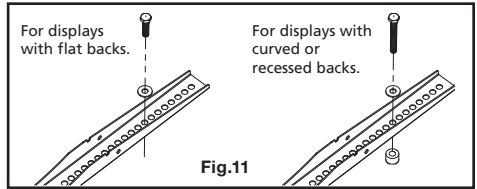
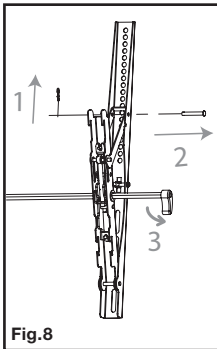
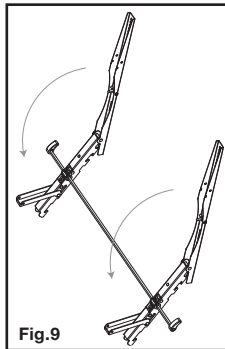

Fig. 11
Fig. 8
Fig. 9
7. Attach the mount arms to the back of your display using the screws identified in Steps 1 and 2 (see Fig. 11):
- A. If you are using the M4 or M6 screws you will also need to use the M6 washers (J). M8 screws do not require washers.
- B. If you are using the longer screws on a display with a curved or recessed back, you will also need to use the spacers (K). Use one spacer or two spacers stacked as needed. **You should only use a spacer if necessary.**
5. Remove the clips located towards the top of each arm and take out the pins (see Fig. 8). Then push down and hold both tilt adjustment rod knobs simultaneously. Lift both sides of the rod together and open both arms completely as shown in Fig. 9.